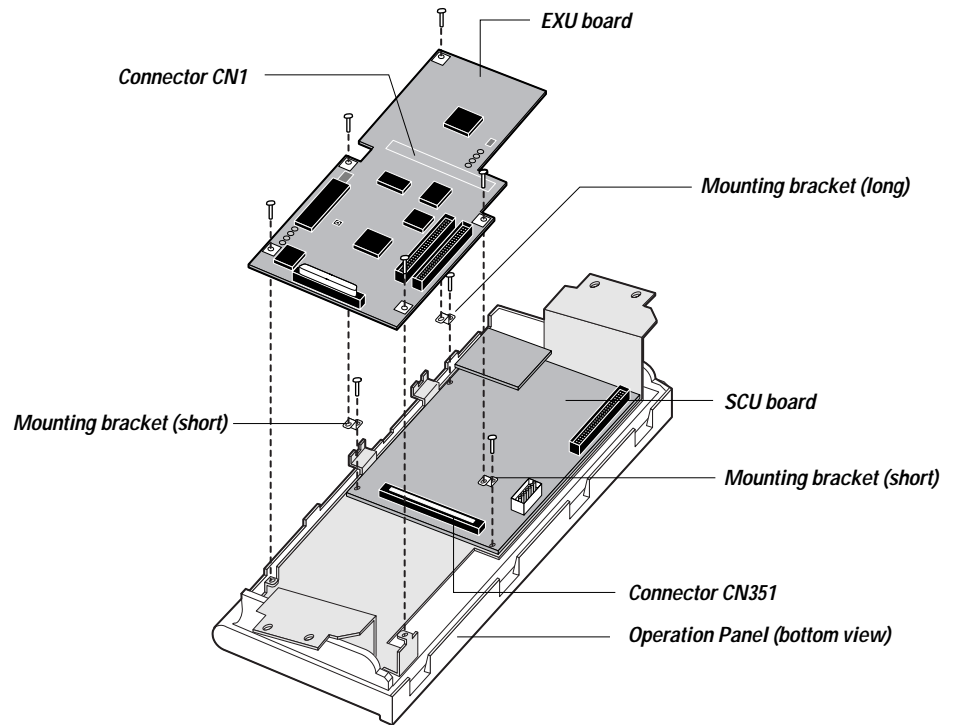

Figure 2-11 Installing the EXU and brackets
3. **Place the long mounting bracket as indicated in Figure 2-11 on page 2-13.**
This kit contains two short brackets and one long bracket that must be installed as indicated in Figure 2-11.
7. **Insert the five screws (M3x5 Phillips pan-head) into the five mounting holes on the EXU board (see Figure 2-11 on page 2-13).**